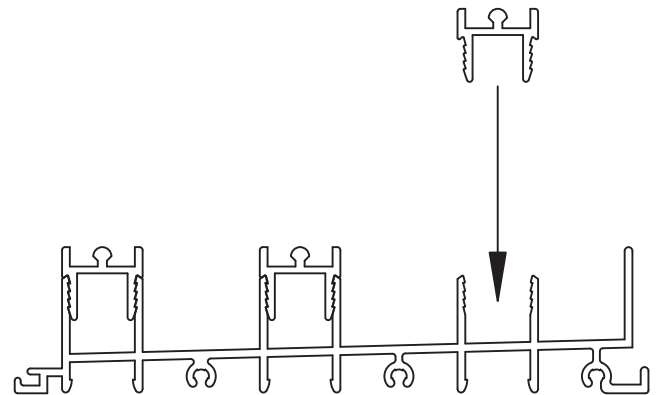

Figure 8
12. After installation screws are sealed, install the sill inserts. There is one insert for each track. The inserts will be different lengths due to the miter. Make sure that inserts are tight to the corner so gaps are minimal. (See Figure 8)